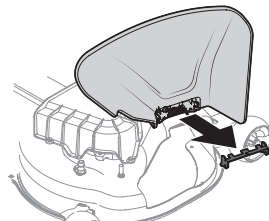

Fig. 19
1. Check the tractor deck for a shipping brace that may be holding the chute deflector upward for shipment. If the brace is present, it must be removed before operating the tractor. Holding the chute deflector fully upward, remove the shipping brace. Lower the chute deflector and discard the shipping brace (Fig. 19).